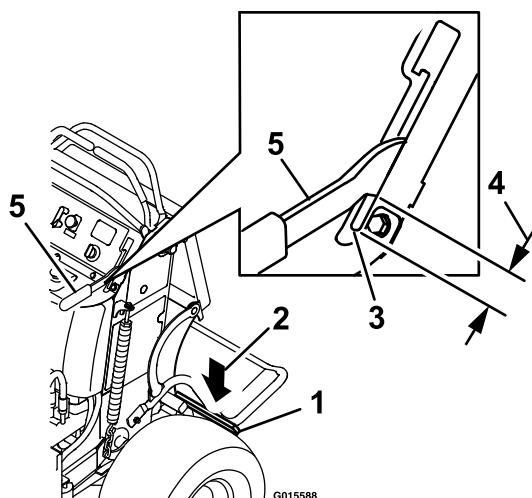

Figure 28
5. Push down on the brake bar until it touches the tires. There will be a 3/4 inch (19 mm) gap between the park brake handle and the slot in the control panel (see Figure 28).